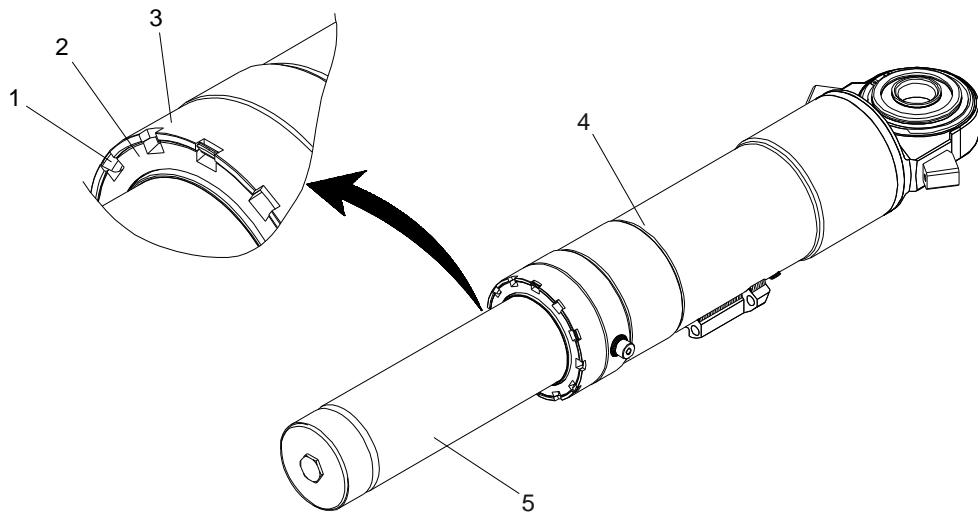

Figure 5-6: Inspect Buffer
1. Inspect the buffer (4) and front collar (2) for damages and general condition. Ensure the front collar (2) has not moved and that the lock ring (1) is bent flush with outer diameter of buffer casing (3) in all six positions. Any damage found requires overhaul to be performed on the buffer by a Dellner authorized workshop. See Figure 5-6.
3. Clean the sliding surface (5) on damper if necessary. Lubricate with Lagermeister 3000+for corrosion protection after cleaning.